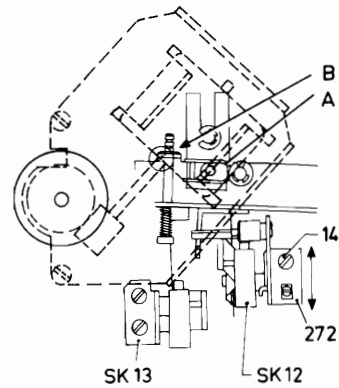

Fig. III-14
- Check that SK12 changes over during the threading-out procedure when spring A is tensioned (Fig. III-14).
- Check that SK13 during the threading-in procedure changes over when spring A (Fig. III-14) is tensioned.